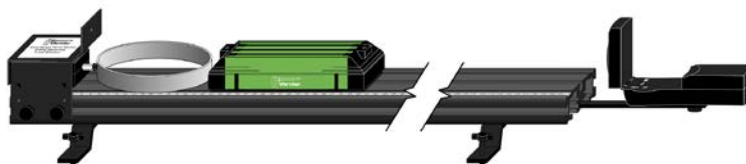

Figure 1
2. Attach the Motion Encoder Receiver to one end of the Dynamics Track (see Figure 1).